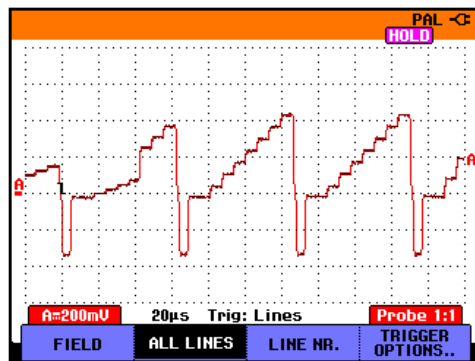

Figure 2-5. Normal Average
**Normal average** smooths the waveform of repetitive signals. It gives you the averaged waveform over successive acquisitions. A single waveform that deviates strongly will affect the smoothed waveform. This happens for example when looking at an interlaced video system. The fly-back line can distort the waveform, and you will not see it flash by as a separate waveform (See Figure 2-5).